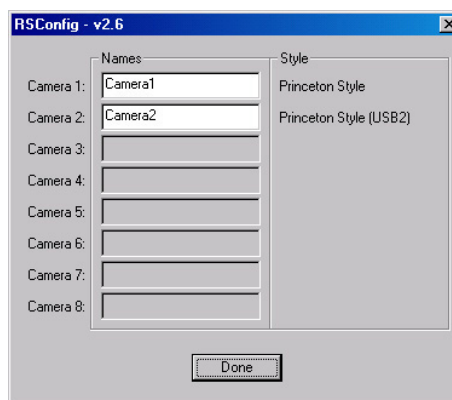

Figure 103. RSConfig dialog: Two Camera Styles
4. Run RSConfig.exe (accessible from the **Windows|Start|Programs|PI Acton** menu). If the USB 2.0 camera is listed as Camera 2 (Princeton Style (USB2) in Figure 103), you will have to edit the PVCAM.INI file.